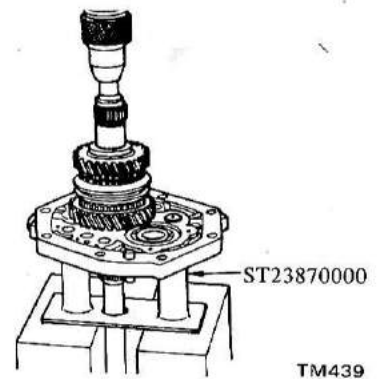

Fig. TM-30 Installing mainshaft assembly
3. Install mainshaft assembly to adapter plate assembly. Be sure to place mainshaft squarely against bearing and press it into place on shaft gradually. See Figure TM-30.